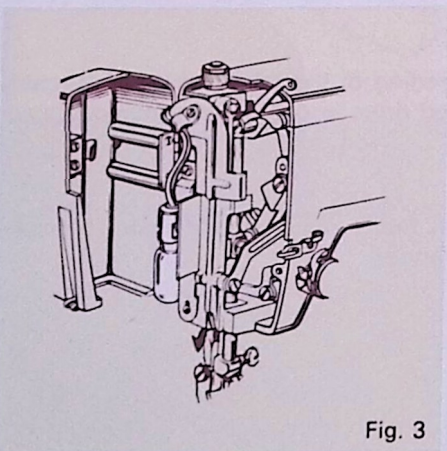

Fig. 3
5. Replace the needle plate insert positioning as shown in Fig. 3.